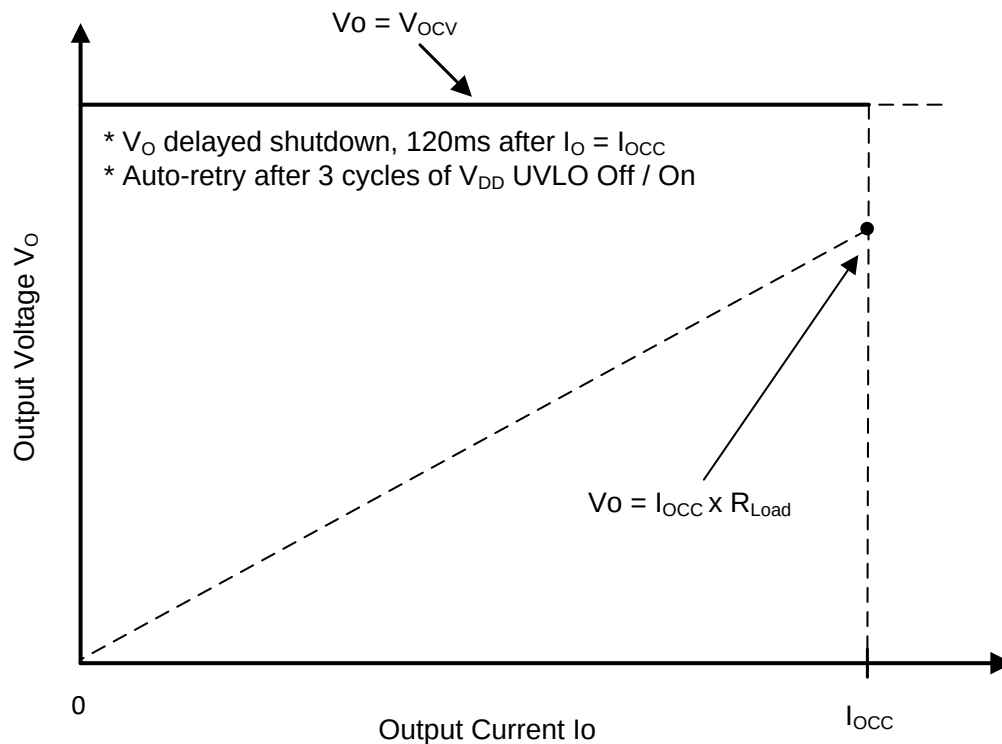
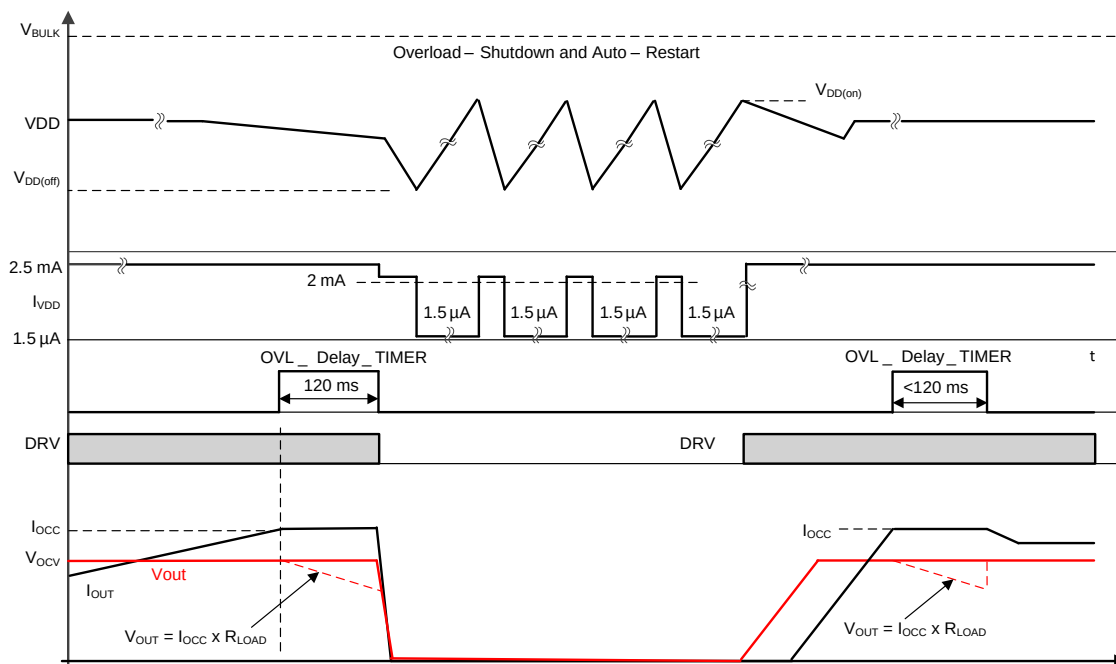

Figure 14. Typical Target Output V-I Characteristics
Figure 15. Output Delayed Shutdown Timing
As shown in Figure 14 below, CV mode operation is from $I_O = 0$ to $< I_{OCC}$; at $I_O = I_{OCC}$, the operation enters constant current limit mode and V_O starts to drop as the load resistance becomes further lower while I_O is maintained at I_{OCC} for a time interval specified by t_{OVL_TIME} typically 120 ms then DRV stops to achieve converter output delayed shutdown. During the 120-ms timing interval, if load I_O reduces to $< I_{OCC}$, the timer will be reset and no shutdown will occur. The V-I curve corresponding to the operation is shown in Figure 14, and the delayed shutdown timing diagram is shown in Figure 15. Note (1) The timer t_{OVL_TIME} is triggered whenever I_O reaches I_{OCC} and reset when I_O drops to $< I_{OCC}$ before 120ms-time-out. (2) during 120-ms time interval, when load resistance becomes so low during constant current interval that causes the device V_{DD} to reach its $V_{VDD(off)}$ and then the shutdown will be through V_{DD} undervoltage lockout instead of through Constant Current Limit and Delayed Shutdown. In such a case, the shutdown can happen before 120ms timer out.